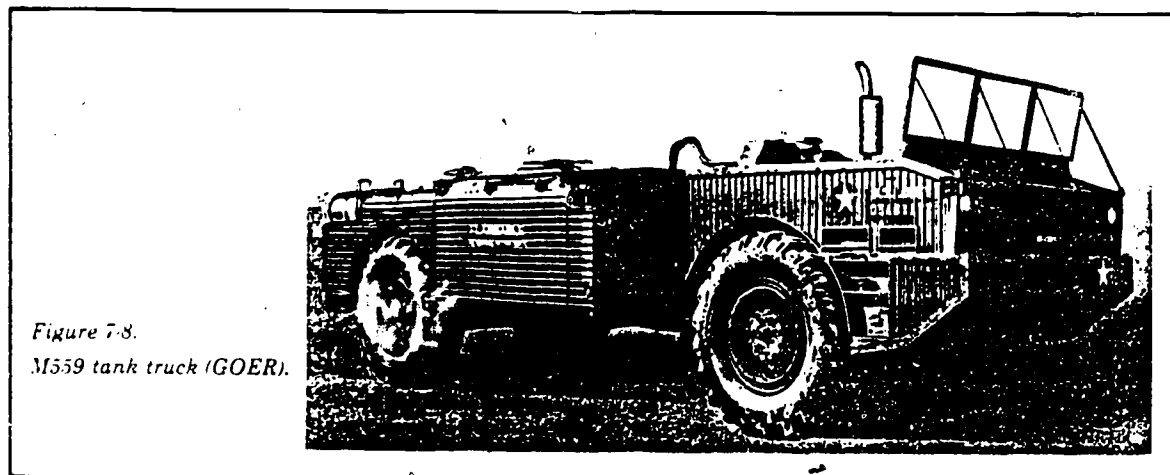

Figure 7-8.
■ **Description.** The M559 tank truck (fig 7-8), also called the GOER, is an on-the-road and off-the-road, all-weather and all-terrain articulated vehicle with two or four-wheel